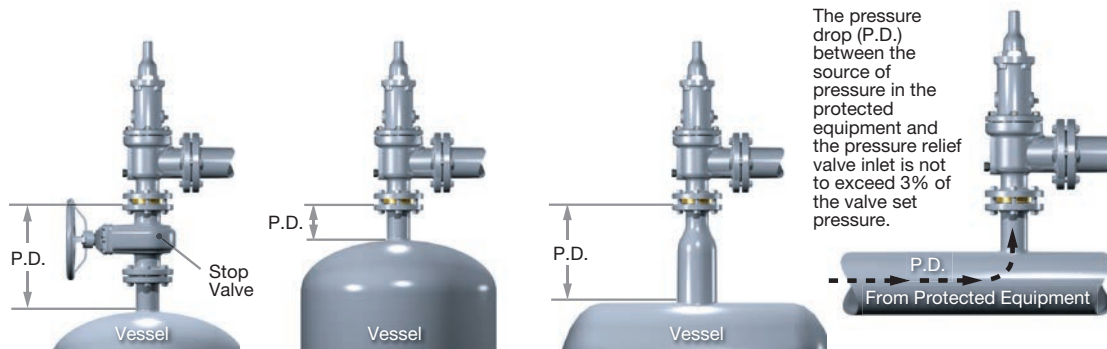

Figure 13: Pressure Drop on the Inlet Piping
- Attach the setting device (see Figure 13).
7. Remove the stud nuts (14) and lift off the bonnet (11).